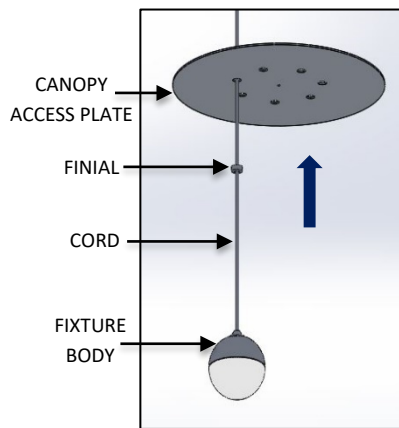

FIG. 7 – FIXTURE INSTALLATION
4. Raise the GLOWBALL FIXTURE BODY and feed FIXTURE CORD through FINIAL, the hole in CANOPY ACCESS PLATE and FIXTURE BRACKET as shown below in FIG. 7. Adjust fixture drop to desired height. Mark cord with marker inside of HANGING BRACKET as shown below in FIG. 8. Trim off excess cord leaving minimum of 8.00" past the top of the DRIVER MOUNTING BRACKET all thread.